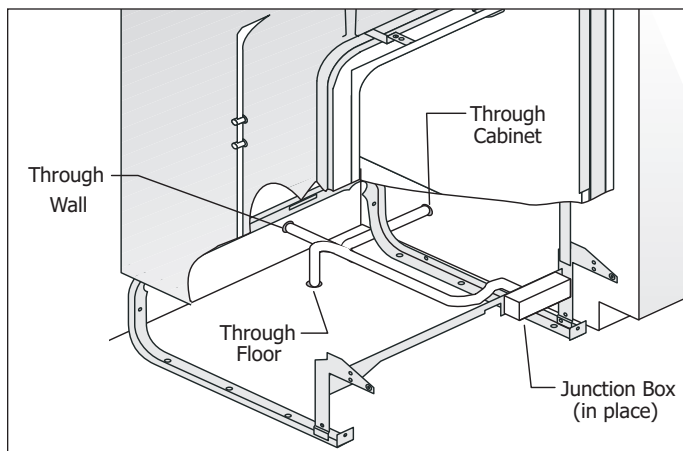

Figure 2-13.
1. Remove junction box cover and pull house wiring into junction box. (See Figures 2-13 and 2-14).